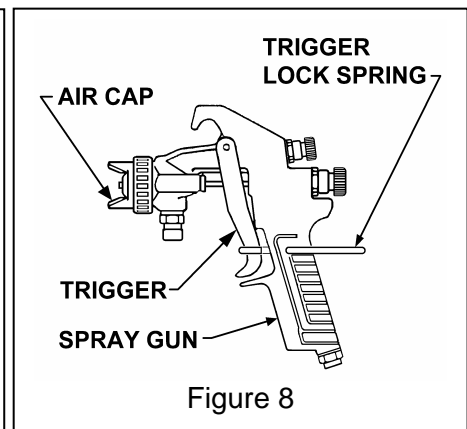

Figure 8
2. Lock the trigger of the Spray Gun in the open position with a Trigger Lock Spring (supplied). See Figure 8.
3. Release the Air Cap of the spray gun two full turns and lock the trigger in the open position with a Trigger Lock Spring. See Figure 8.